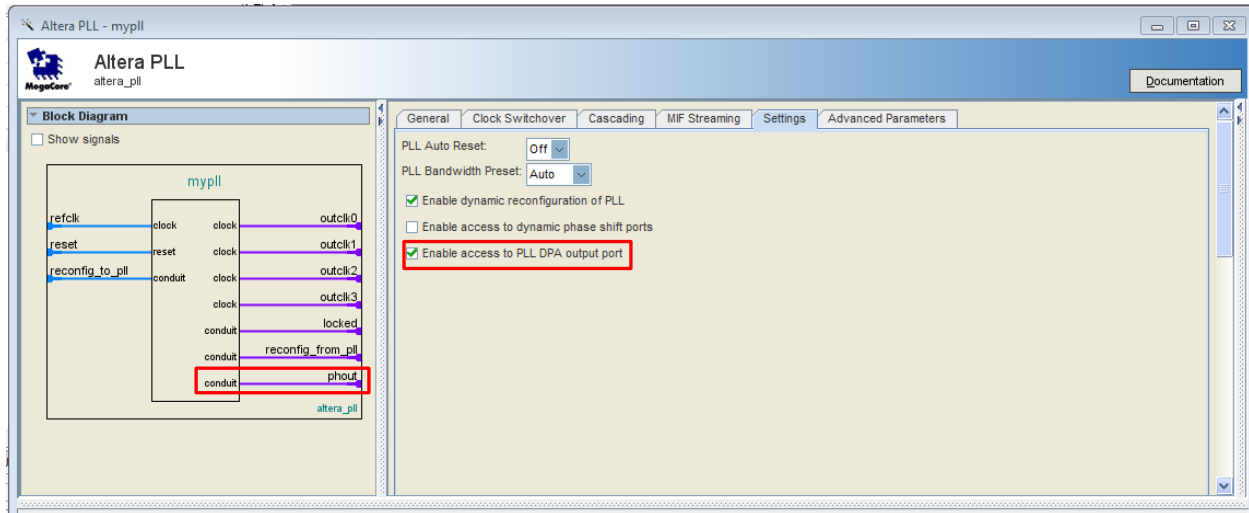

Figure 4-1 Altera PLL megafunction with **Enable access to PLL DPA output port** enabled
- a) Turn on the “**Enable access to the PLL DPA output**” option in the Altera PLL megafunction as shown in Figure 4-1 and the “phout” output port will be produced. The phout port is 8 bits wide.